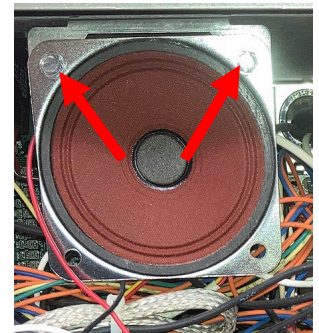

Figure 15
14. Remove the two (2) screws attaching the speaker to the bracket (see Figure 15).